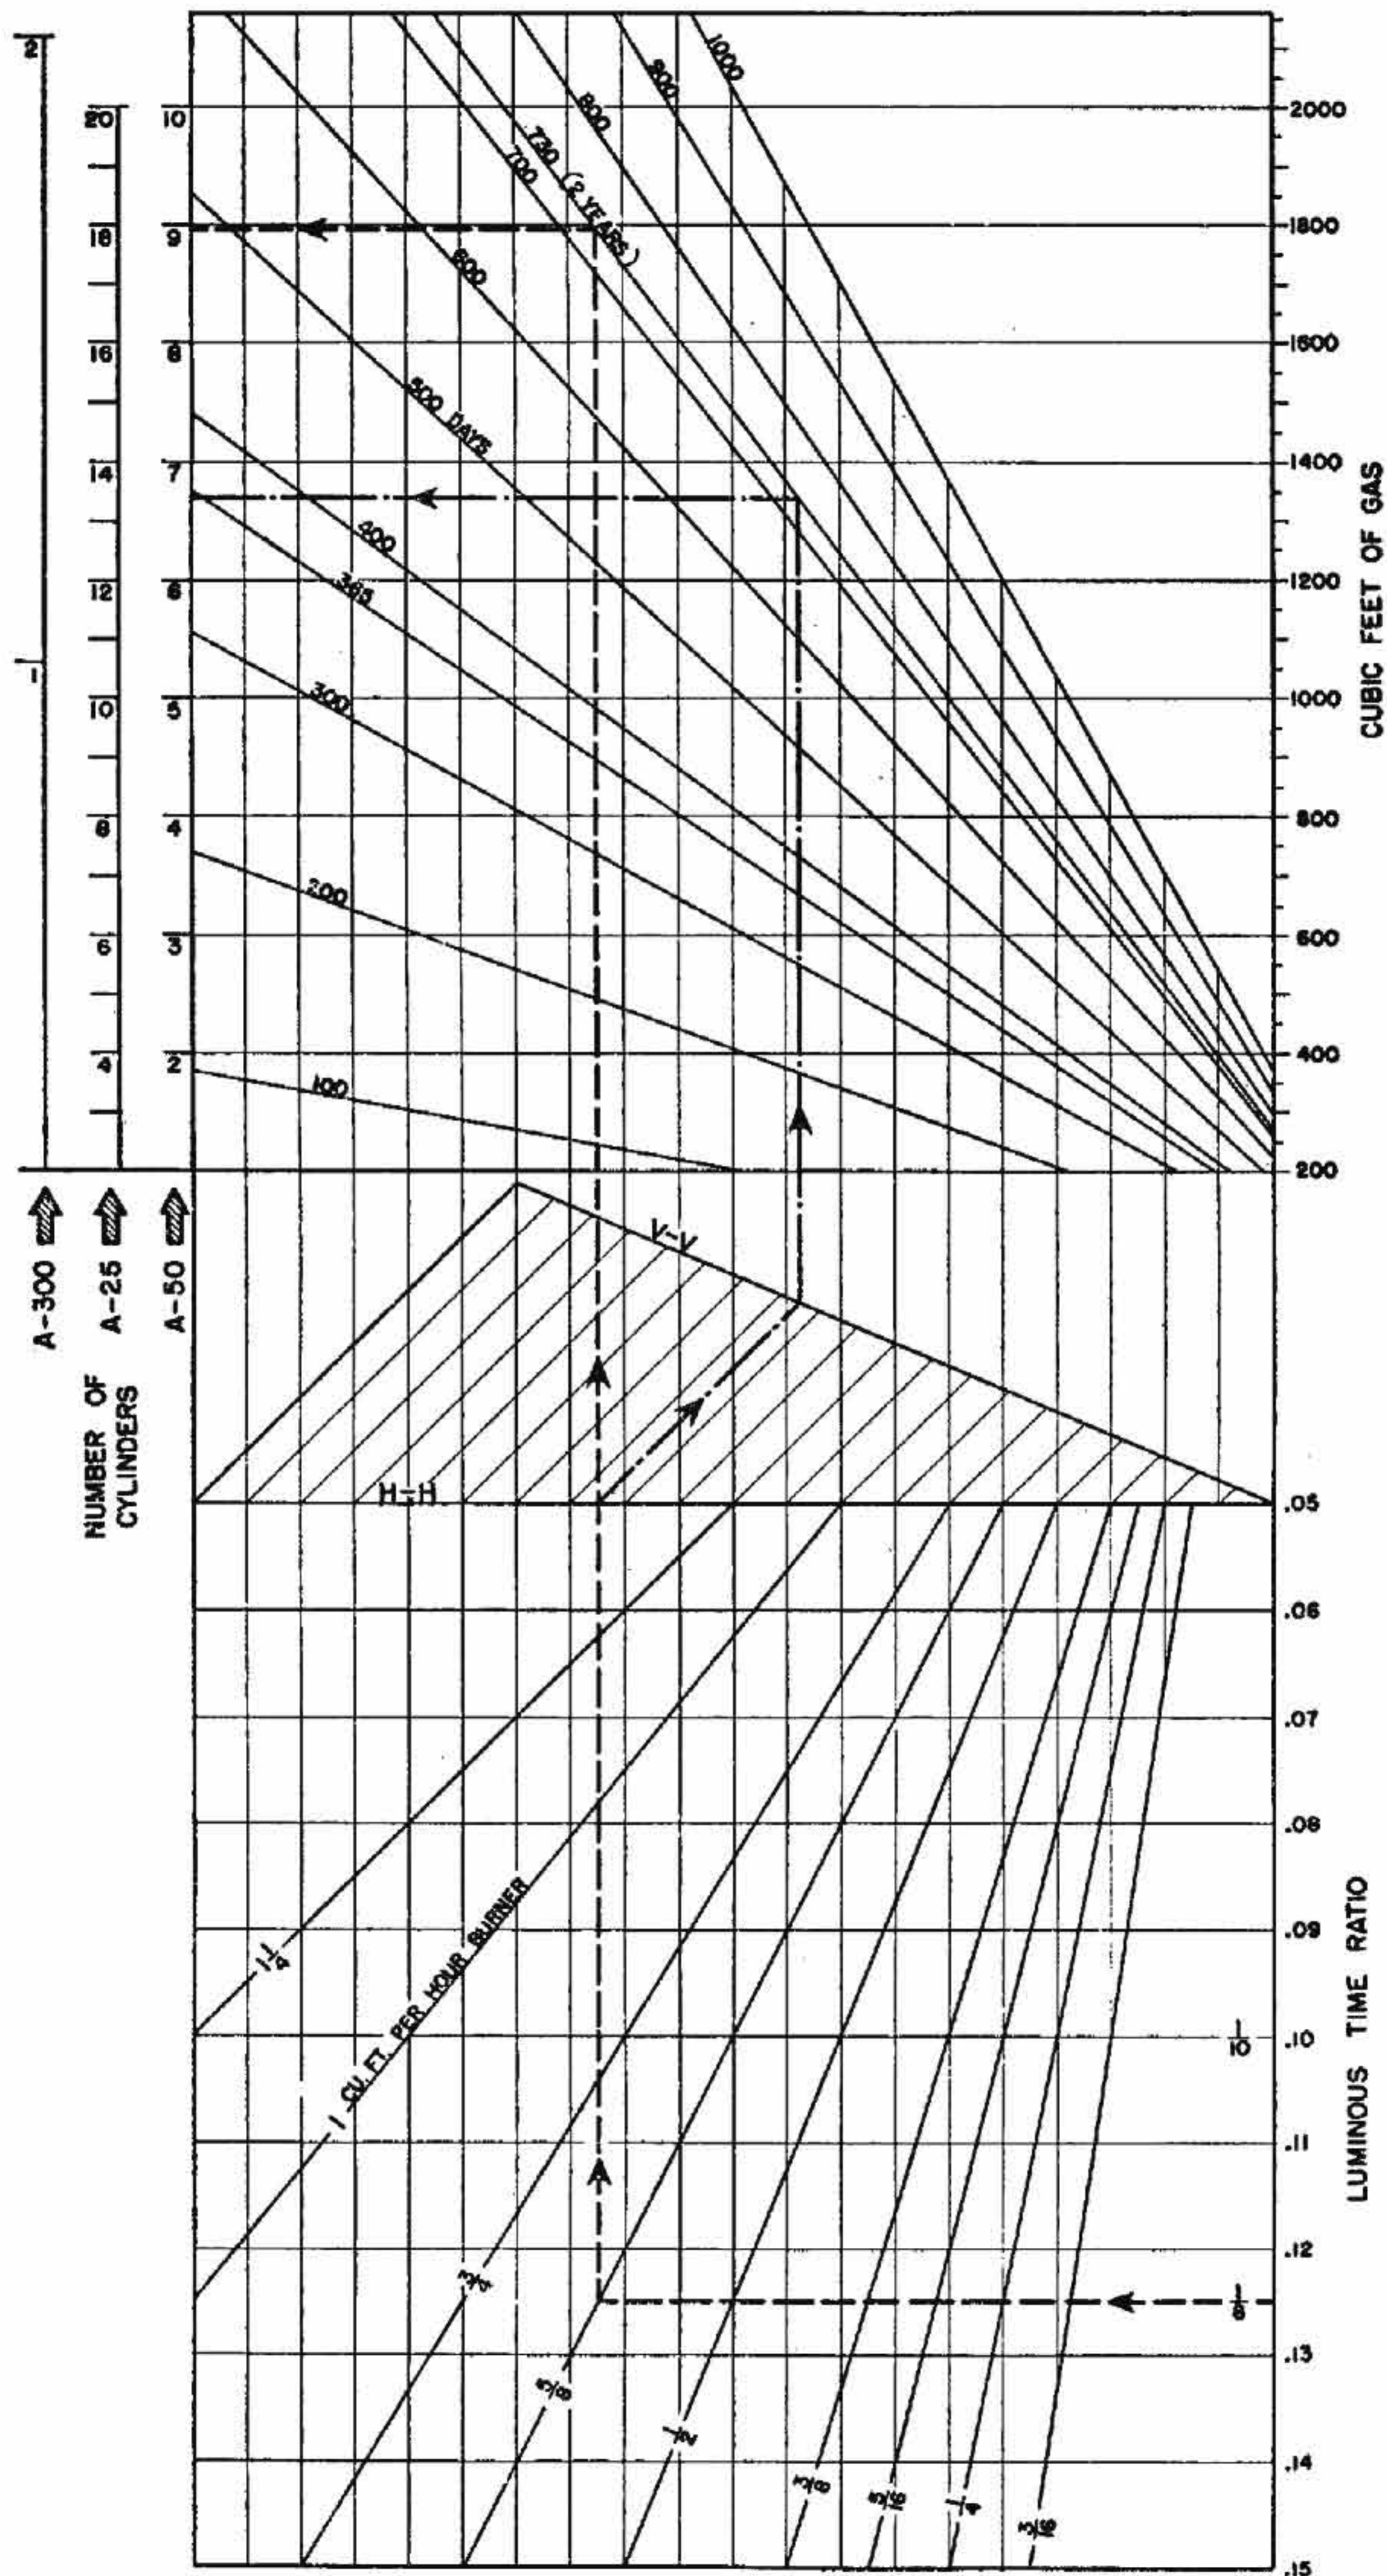

FIGURE 20-82.—Acetylene gas consumption chart.
A. Since there is a distinct relationship between change of temperature, the difference in the known atmospheric temperature, and the internal temperature of a cylinder (which can only be estimated unless the ambient temperature has remained constant for a long period), and the pressure of the acetylene gas, the practice of "gaging" an acetylene installation to determine the remaining service period is not always reliable. A check of pressure will give a general indication of the need for recharging, or will show up an abnormal condition such as a leak, etc. If the tables (figs. 20-2, 20-2A or 20-2B) or the nomograms (figs. 20-82 and 20-83) are used in computations, it must be remembered that the temperature involved is the internal temperature of the mass within the cylinder, and accurate estimation thereof must be attempted. (Although impracticable in the field, the only reliable manner in which the quantity of gas remaining in a cylinder can be determined is by checking its weight.)
A. The acetylene gas consumption chart (figs. 20-82 and 20-83) can be used either to determine how many acetylene cylinders to install for any given installation or to calculate the service time remaining in a partially discharged installation. The chart is based on the formula given in paragraph 20-18-5 (A). ~~(See note below.)~~ Two examples are given below, the first of which shows how to select the number of cylinders to give a specific servicing time and the second how to calculate the servicing time remaining in an existing installation.
~~NOTE: The charts (figs. 20-82 and 20-83) were computed for the value of 180 cubic feet capacity formerly used for A-50 cylinders and 88 cubic feet for the A-25. The values for A-300 cylinders remain the same. It is suggested that the charts be used "as is" without attempt to interpolate for the presently accepted values of 200 cubic feet for A-50 and 100 cubic feet for A-25 cylinders. Thus any error will always be on the side of caution.~~
Solution: Use the left-hand half of the chart (fig. 20-82). Compute the luminous time ratio as defined in paragraph 20-18-5. This is found to be $\frac{1}{8}$. Proceed on the chart as follows: